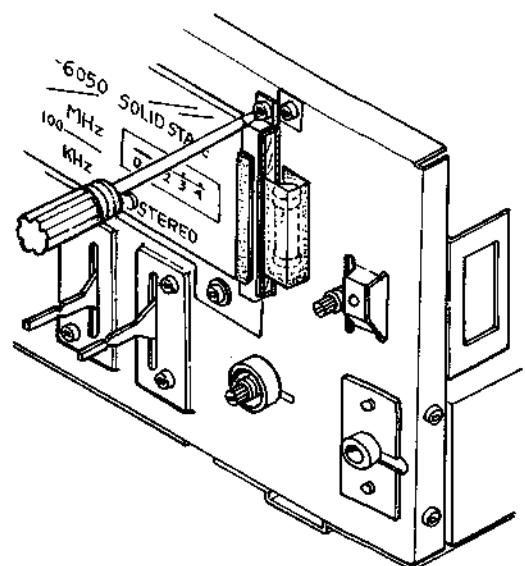

Fig. 2-7 Dial Glass Replacement
- (1) Remove the front panel. See Section 2-2.
- (2) Loosen off screws (+RF 2.6 × 4) securing the dial glass bracket to the sub chassis as shown in Fig. 2-7.
- (3) Install a dial glass.